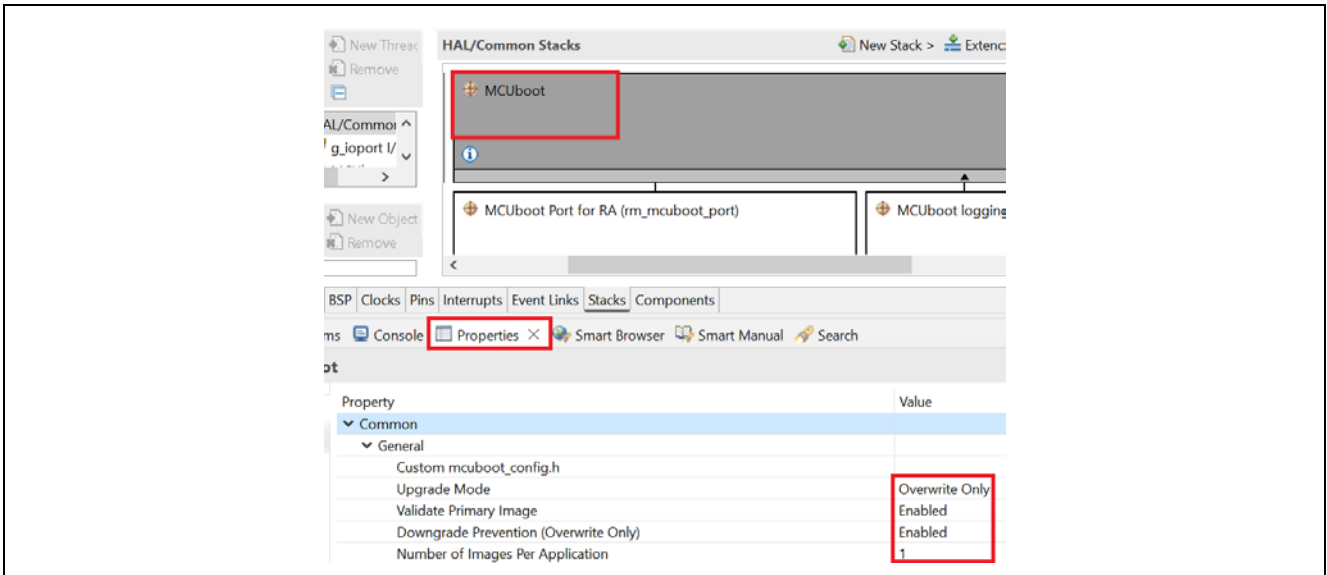

Figure 12. General Properties for MCUboot
- For project `ra_mcuboot_ra2e1` and `ra_mcuboot_ra2e1_overwrite_with_signature`, use the settings in Figure 12.
- For project `ra_mcuboot_ra2e1_swap` and `ra_mcuboot_ra2e1_swap_with_signature`, update the following properties in Figure 12:
- For project `ra_mcuboot_ra2e1_dxip` update the following properties in Figure 12: